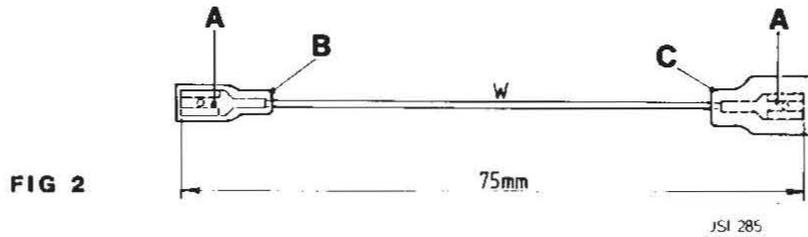
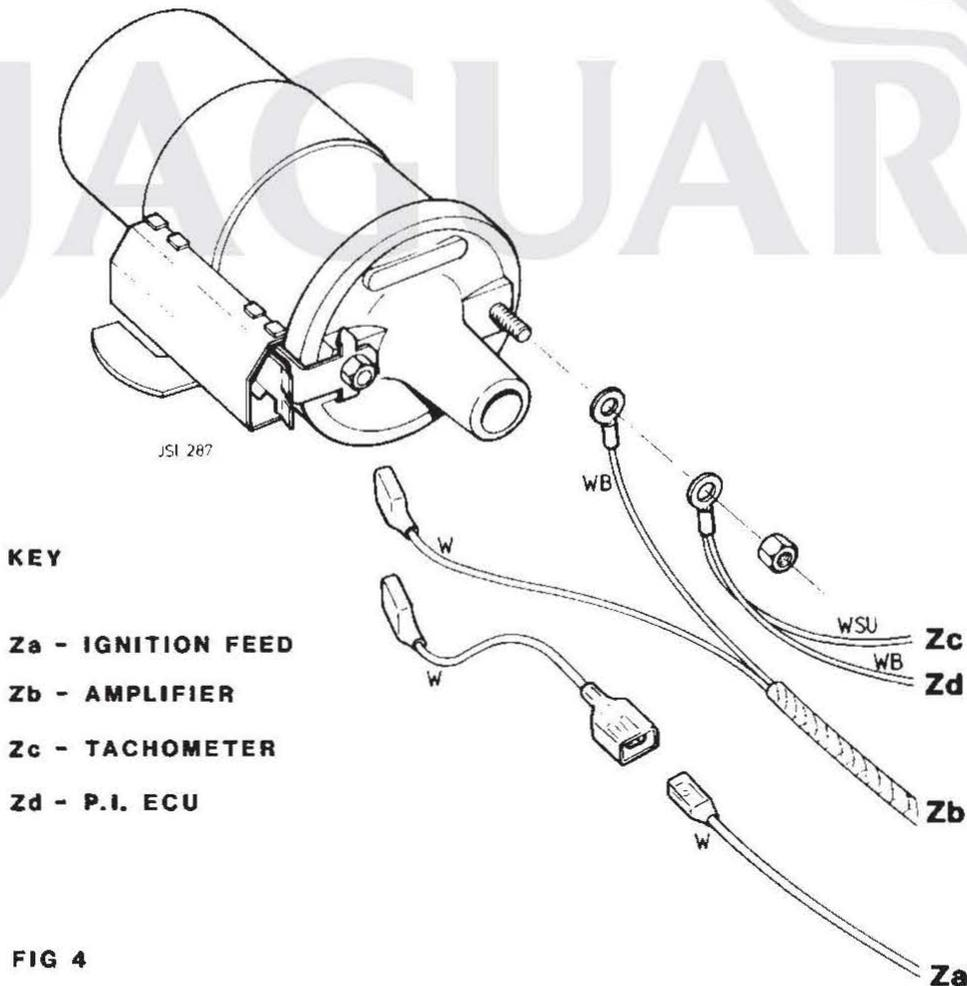

FIG 2
FIG 4
4. Construct a link harness as shown in Fig. 2, and connect it between the ignition coil feed wire (W) and the coil ballast resistor, Za, Fig. 4.
7. Connect the two eyelet connectors, one on the ignition amplifier harness and the other on the engine harness, to the coil negative stud and secure, (see Zb, Zc and Zd, Fig. 4).